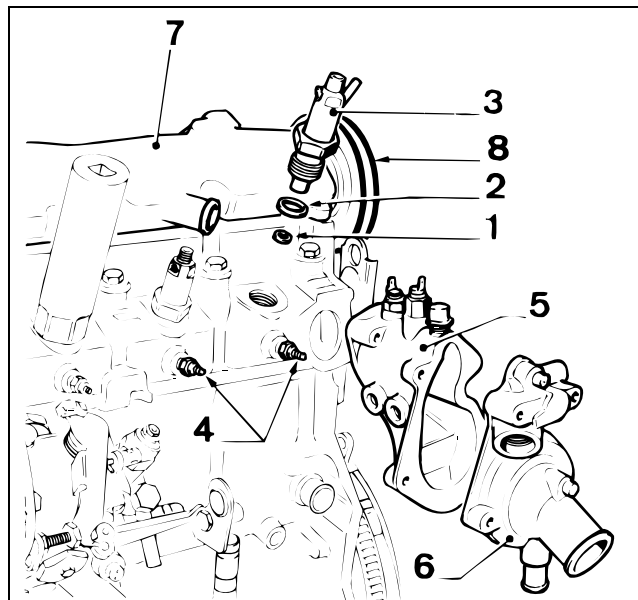

Figure 89
1. Install new fire ring washers (Fig. 89, Item 1), convex surface facing up.